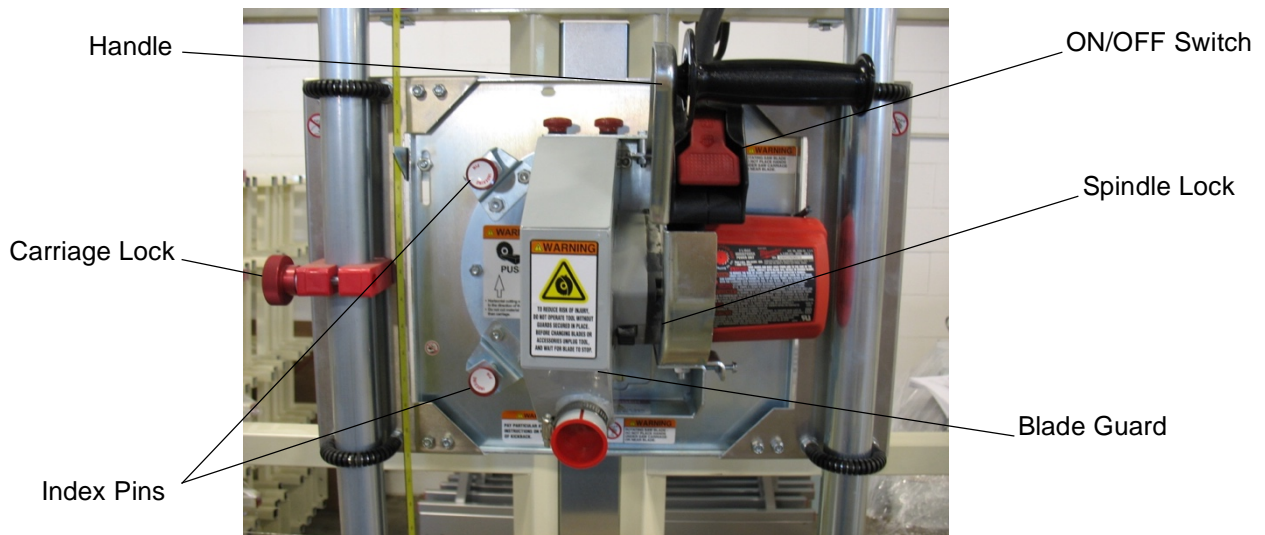

Figure 26: Basic Operating Controls and Components (C & H Series)
Refer to Figure 26 & 27 for the location of operator controls on each model saw.
C4, C5 and H-Series saws. Start the motor by lifting on the paddle switch (page 28, Fig. 26) located under the saw handle. Stop the motor by pressing the same switch down.
All saw models. Pull out both of the indexing pins (page 28, Fig. 26 & 27), and pivot the turntable until they snap into the appropriate holes.
C4, C5, and H-Series saws. Use the handle attached to the motor body (page 28, Fig. 26).
Lock the carriage by tightening the (carriage lock), (page 28, Fig. 26 & 27) lock knob:
1. Remove the blade guard (page 28, Fig. 26 & 27) so the blade is exposed.